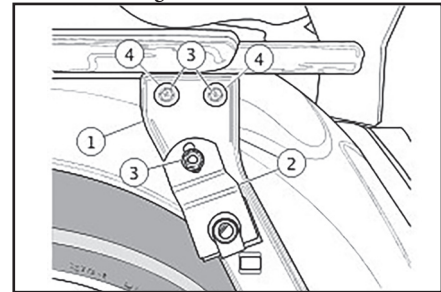

Figure 3. Original Equipment Screws (left side shown)
7. See Figure 3. Remove and discard existing screws (3) from each side of the motorcycle.